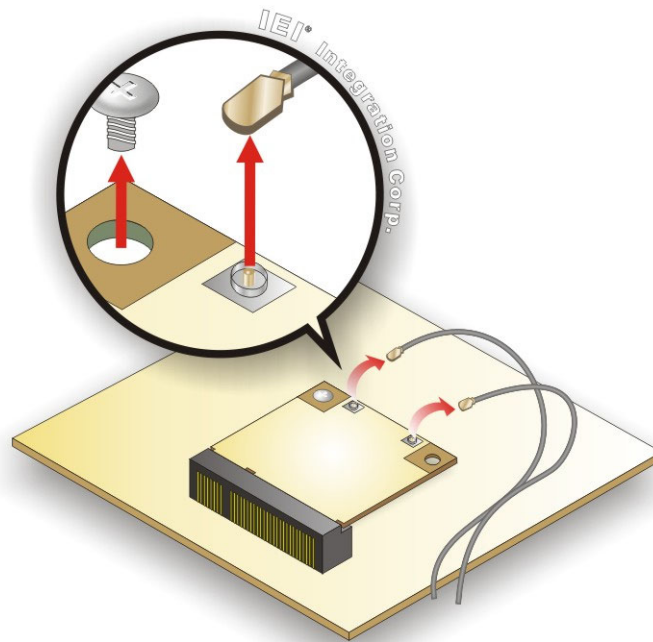

Figure 5-4: Releasing the WLAN Card
Step 5: Disconnect the antenna cables on the WLAN module and remove the retention screw to release the WLAN card (**Figure 5-4**).